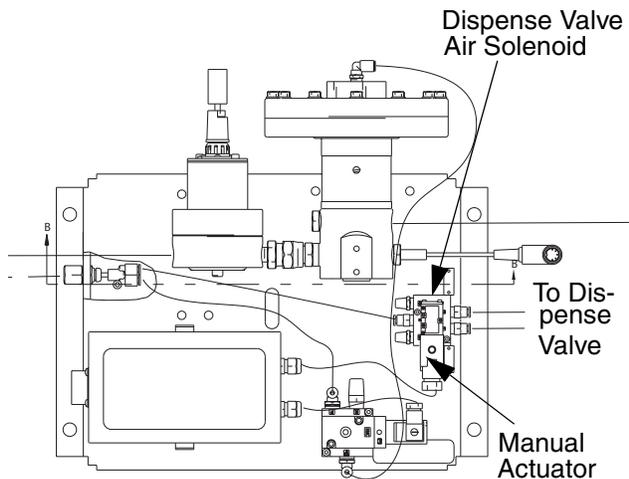

FIG. 14
5. If the dispense device cannot be actuated from the control unit, refer to FIG. 14 and perform the following steps to open the dispense device and relieve fluid pressure:
- a. Manually actuate the plunger on the solenoid, that opens the dispense device, to relieve fluid pressure. Refer to FIG. 14.